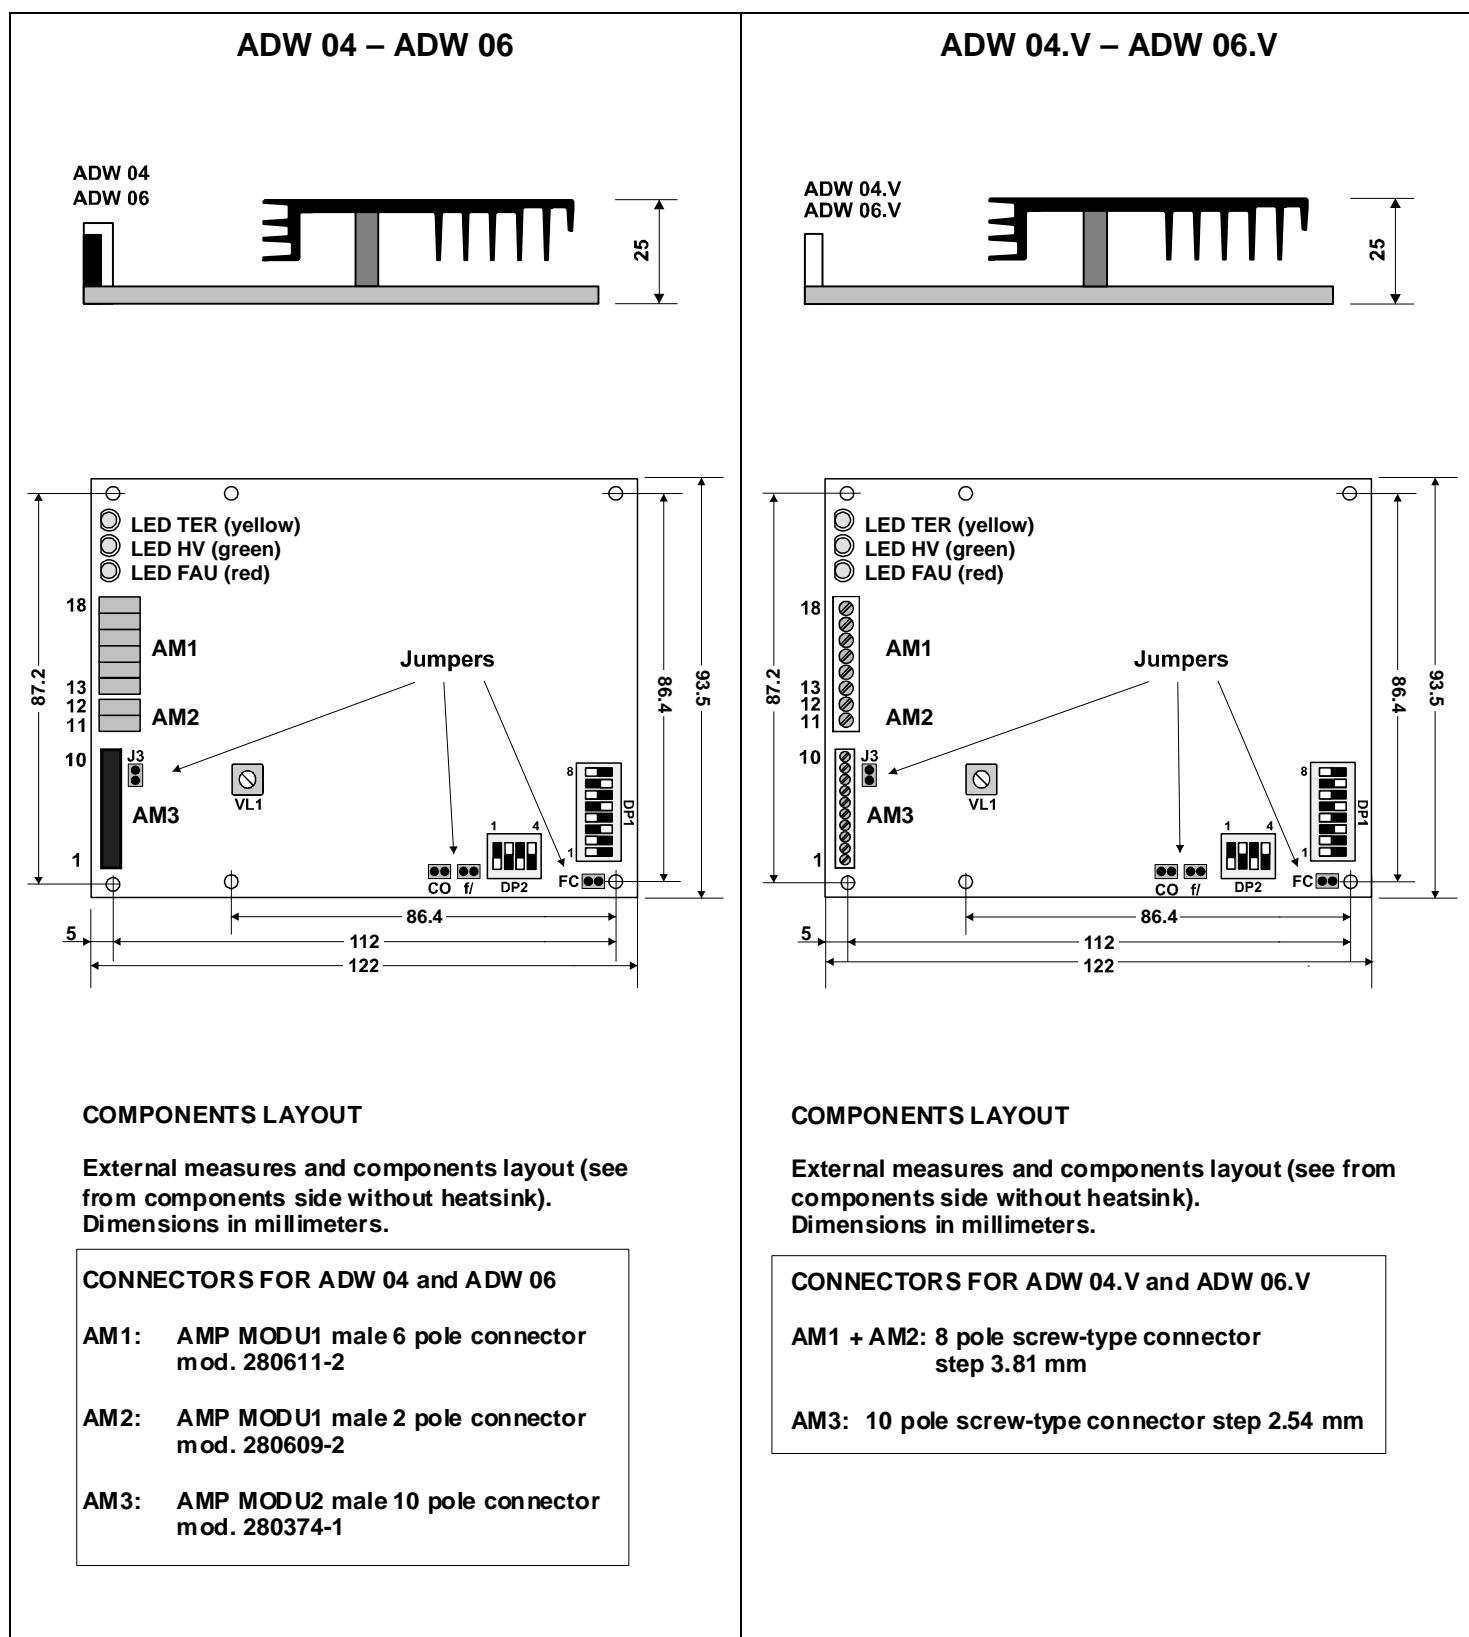

Fig. 2 – Dimensions: all measures in mm.
The maximum speed of the motor is established by setting the dip-switches 4,5 and 6 of DP1 (as shown in Fig.2), while the minimum speed is fixed by dip-switches 7 and 8 of DP1. Moreover, the drives provides AUTOSTOP functionality, selectable with a specific dip-switch setting. Thank to this features, the motor stops automatically when reaches the minimum settled speed.
4.1 - LOGIC INPUT AND OUTPUT SIGNALS (connectors AM3, see Fig. 2)